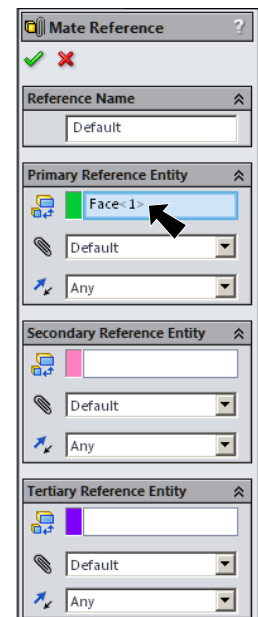

Fig. 23
Step 3. In the Mate Reference Property Manager click **OK** , **Fig. 23**.